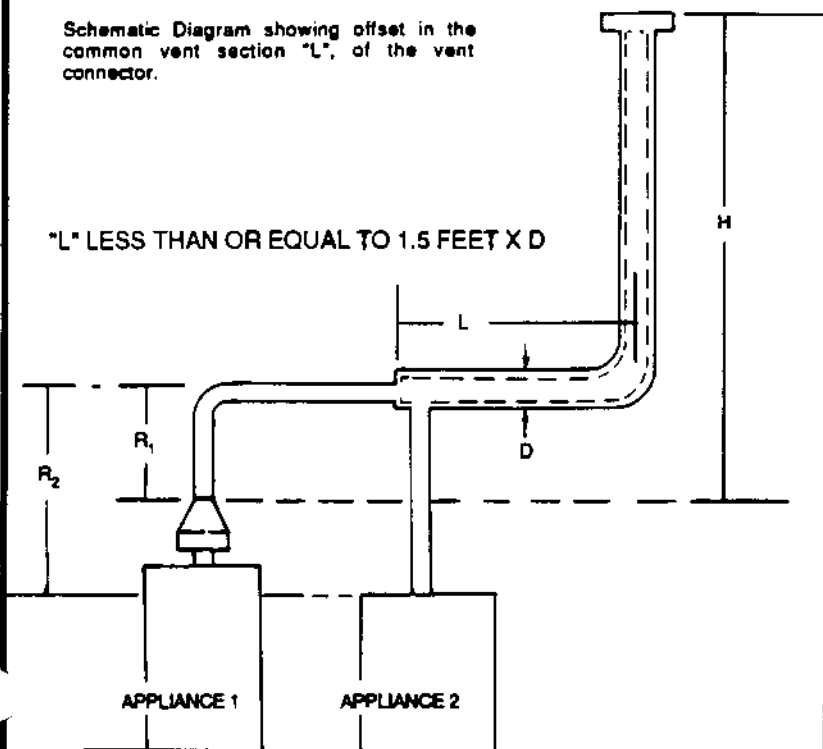

FIGURE 7
- 4) If vent connectors are combined prior to entering the common vent, the maximum common vent capacity listed in the common venting tables must be reduced by 10% (0.90 x maximum common vent capacity). See Figure 7. The length of the common vent connector offset (L) should not exceed 1-1/2 feet (18 inches) for each inch of common vent connector diameter.